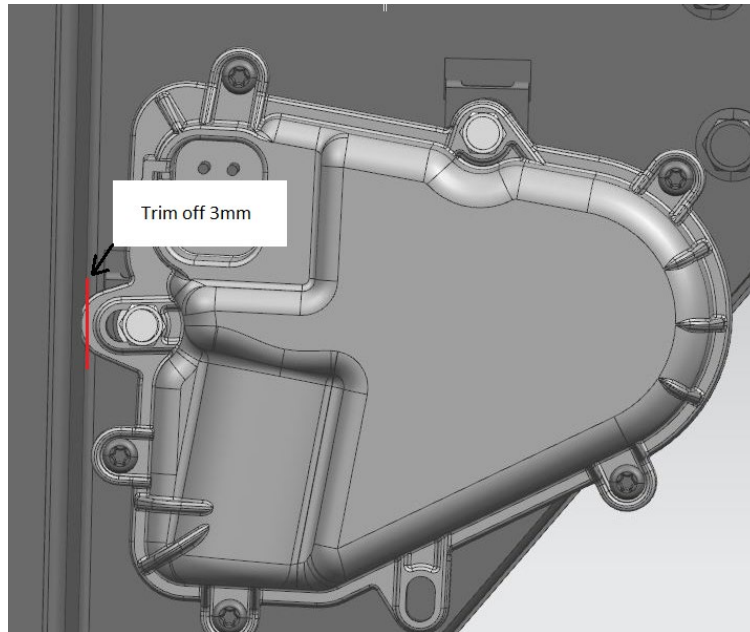

Fig. 3, Area of the Actuator to Trim
6. Before installing, use a grinder to trim 0.19 inch (3 mm) off the front tab of the new actuator (part number RDHRD3 22065 0P) as shown in **Fig. 3**.